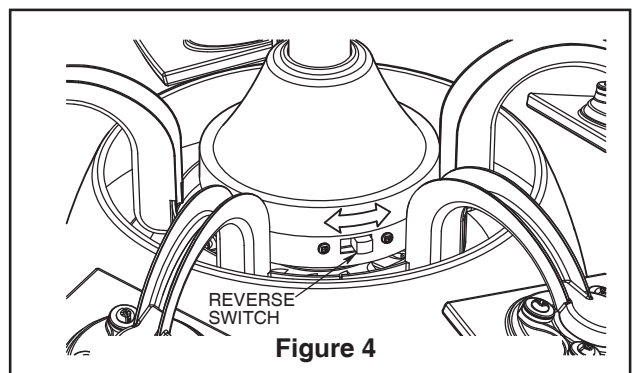

Figure 4
- 3. LEARN MODE PROCESS:** (Figure 4)
4. Secure the blade holders to the motor support using the 1/4-20 x 14 mm screws through the holes located on the top of the motor support (Figure 4).
4. If airflow is desired in the opposite direction, turn the fan off and wait for the blades to stop turning. Slide the reverse switch on top of motor assembly to the opposite position and turn fan on again (Figure 4).